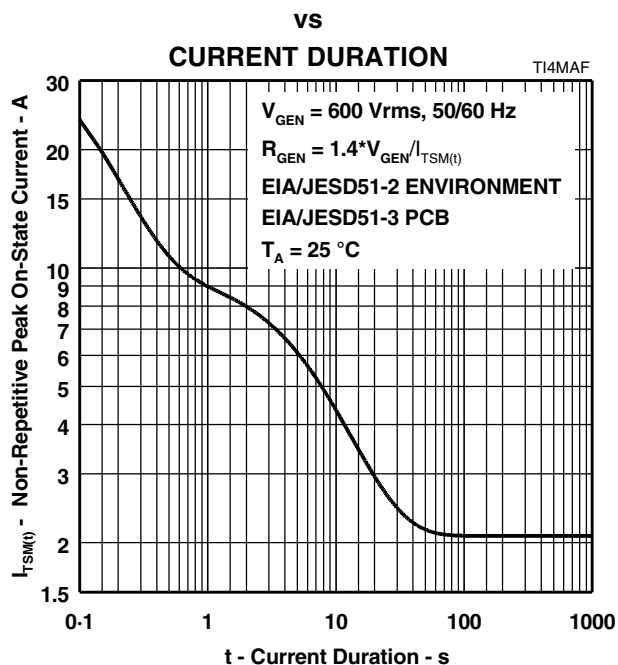

Figure 8.
5. EIA/JESD51-2 environment and EIA/JESD51-3 PCB with standard footprint dimensions connected with 5 A rated printed wiring track widths. See Figure 8 for the current ratings at other durations. Derate current values at $-0.61\text{ }^{\circ}\text{C}$ for ambient temperatures above $25\text{ }^{\circ}\text{C}$
The protector can withstand currents applied for times not exceeding those shown in Figure 8. Currents that exceed these times must be terminated or reduced to avoid protector failure. Fuses, PTC (Positive Temperature Coefficient) resistors and fusible resistors are overcurrent protection devices which can be used to reduce the current flow. Protective fuses may range from a few hundred milliamperes to one ampere. In some cases it may be necessary to add some extra series resistance to prevent the fuse opening during impulse testing. The current versus time characteristic of the overcurrent protector must be below the line shown in Figure 8. In some cases there may be a further time limit imposed by the test standard (e.g. UL 1459 wiring simulator failure).